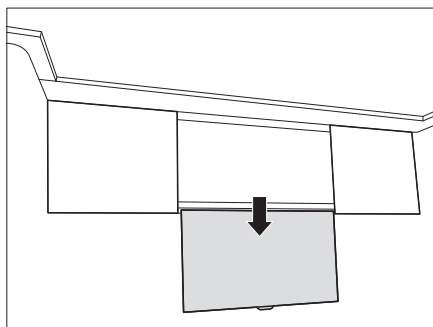

Fig. 129 Flat screen in bottom position
- Pull down the flat screen by the handle (Fig. 129).